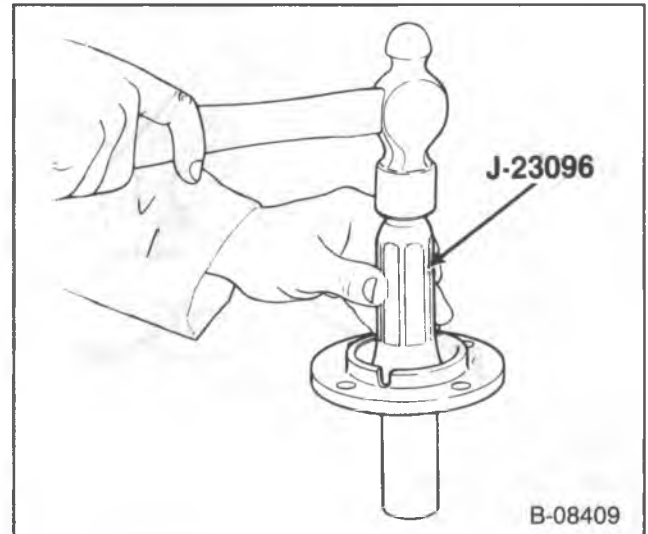

Figure 29—Installing the Bearing Retainer Oil Seal
- New seal (683) using J 23096. Coat the inside of the seal with transmission oil (figure 29).